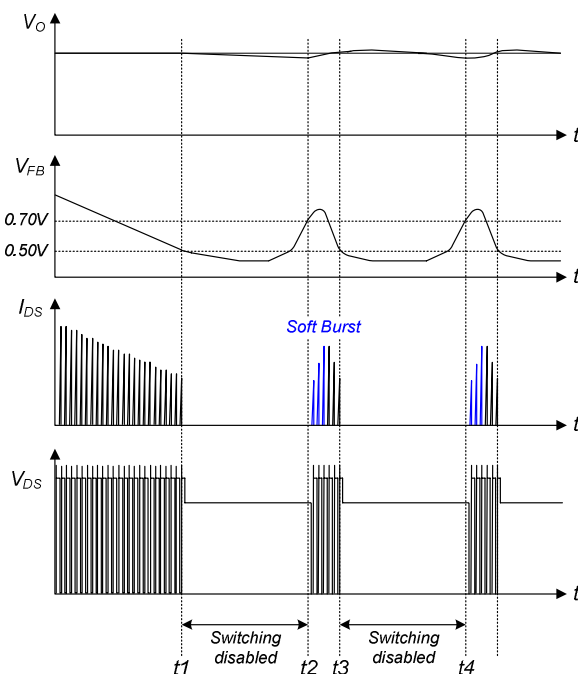

Figure 23. Burst-Mode Operation
5. Soft Burst-Mode Operation: To minimize power dissipation in standby mode, the FSGM0465RB enters burst-mode operation. As the load decreases, the feedback voltage decreases. As shown in Figure 23, the device automatically enters burst mode when the feedback voltage drops below V_{BURL} (500mV). At this point, switching stops and the output voltages start to drop at a rate dependent on standby current load. This causes the feedback voltage to rise. Once it passes V_{BURH} (700mV), switching resumes. At this point, the drain current peak increases gradually. This soft burst-mode can reduce audible noise during burst-mode operation. The feedback voltage then falls and the process repeats. Burst-mode operation alternately enables and disables switching of the SenseFET, thereby reducing switching loss in standby mode.